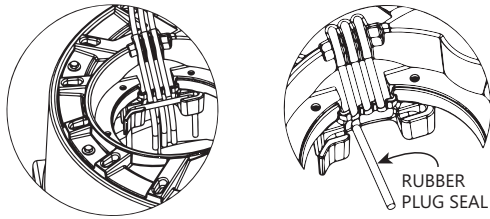

Figure 13. Proper Cord Sealing Behind QuickTree Rod
**Re-inserting the QuickTree:** After service or inspection of the floats, re-insert the QuickTree into its holder. It is important that cords from the pump motor, float switch, and optional alarm float are properly sealed in the specially designed rubber sealing channels under the access cover. Proper sealing is required to keep sewer gas from leaking from the system. Place the cords securely in the rubber channels as shown in Figure 13 [left], being careful to remove excessive cord “slack” from inside the system.
**IMPORTANT:** Three cord channels are provided. For systems without the alarm option, only two channels are used and the third must be “plugged” with an attached rubber plug seal. See Figure 13 [right]. If the alarm cord is present, all three channels will be used. All rubber cover gaskets are permanently attached and do not require replacement.